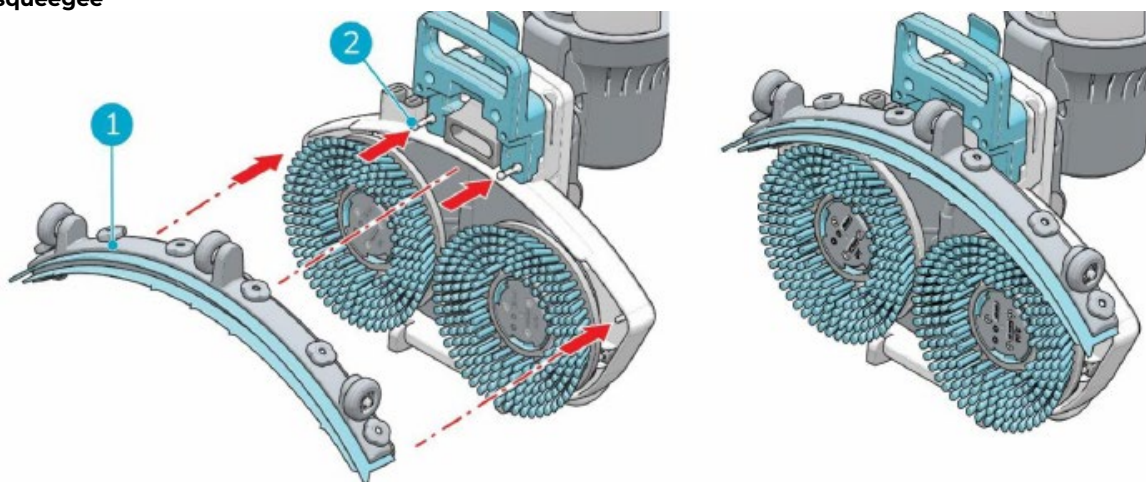

Fig. 2
2. Align the pins on the scrub deck (Fig. 2, pos. 2) with the holes on the squeegee (Fig. 2, pos 1).